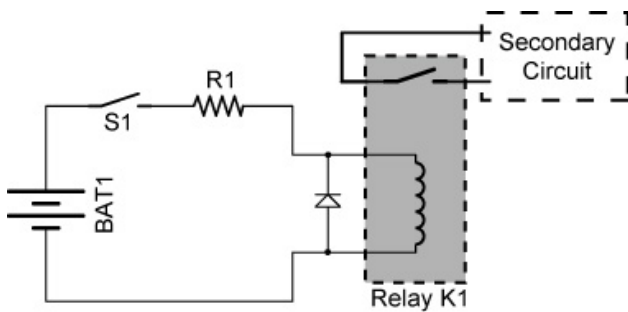

Figure 2
- Action: When the control circuit of a relay energizes the coil, the coil's attraction force pulls a lever arm called an armature toward the coil. This action turns the secondary circuit on and off. See Figures 2 and 3.